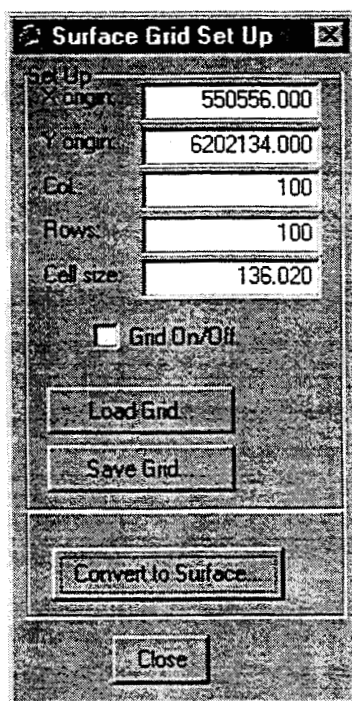

Figure 22 Surface Grid Set Up Dialog.
- Press the **Convert to Surface** button to open the **Convert to Surface** dialog box, see Figure 22.
This menu allows the user to define the themes that should be converted to surfaces using the defined surface grid set-up, see Figure 22.
**Convert to surface:** Converts all the themes in the list to surfaces (ArcView grids) using the model grid definition from the surface grid set-up, see Figure 22. Prior to using this option the surface grid set-up must be done. Uses a default interpolator which is Inverse Distance Weighted (IDW) with a power of 2, no barriers, and a variable Radius of 12 points with no maximum distance.